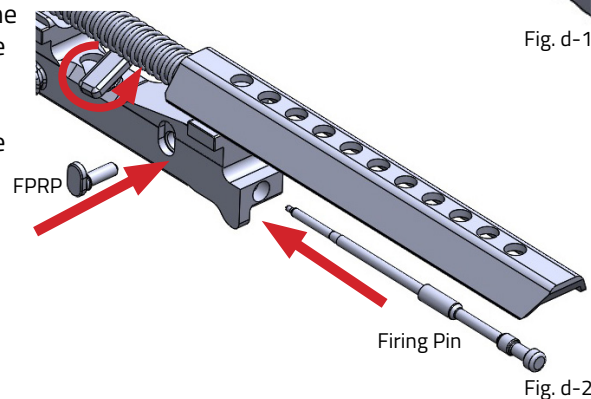

Fig. d-2
3. Pull the bolt head forward and rotate the bolt guide pin 90 degrees, then insert the firing pin (small tip forward) into the bolt carrier until it sits just below, flush with the back of the bolt carrier. (Fig. d-2)
4. Insert the firing pin retention pin in the bolt carrier from the left, and press until flush. (Fig. d-2)